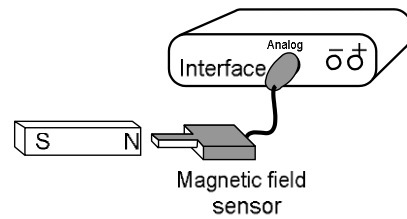

Figure 9
- 2) Hold the sensor still and away from any magnets, walls, metal, or electronic equipment, then press the tare button. Verify that the reading is stable and approximately 0. Measure the magnetic field strength B at one end of the magnet; be sure the tip of the sensor is touching the magnet and is parallel with the magnet. (See Figure 9). DataStudio displays measurements of magnetic field in gauss B_G , but values for magnetic field strength should be in teslas B_T when calculating magnetic flux Φ . Record the magnitude of the measured value as B_G , convert this value to teslas using $10,000 \text{ G} = 1\text{T}$, and then record the converted value as B_T in the spaces provided below.